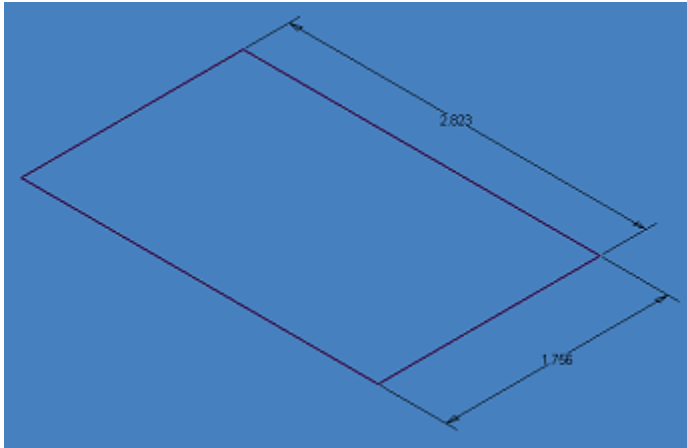

Figure 2: Part file *BF-04-01.ipt*.
7. Open the part file *BF-04-01.ipt* in the project folder. It should look like Figure 2.